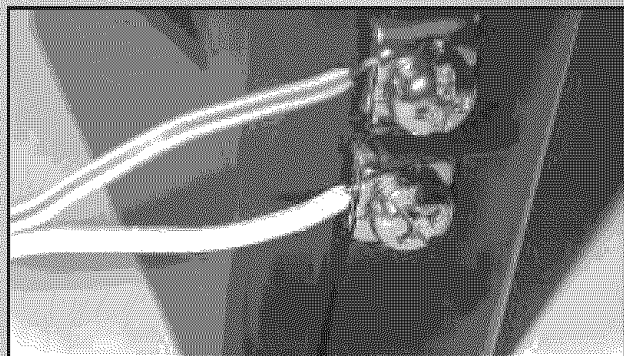

Fig. 3-7
- Insert wire under flat plate and tighten screw. It does not matter which wire, white or striped, goes on which terminal **Fig. 3-7**.